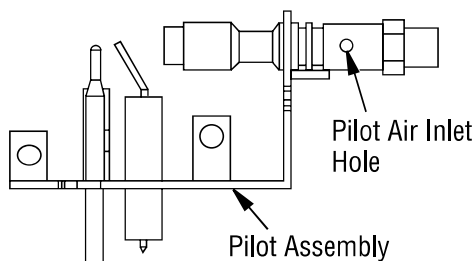

Figure 39 - Pilot Inlet Air Hole (Your pilot may vary from pilot shown)
6. In case any large clumps of dust have now been pushed into the burner repeat steps 3 and 4. Clean pilot assembly also. Additional cleaning may be needed for proper pilot operation based on use/lack of use. A yellow tip on the pilot flame may indicate dust and dirt in the pilot assembly. There is a small pilot air inlet hole about from where the pilot flame comes out of pilot assembly (see **Figure 39**). With unit off, lightly blow air through air inlet hole. You may blow through a drinking straw if compressed air is not available.